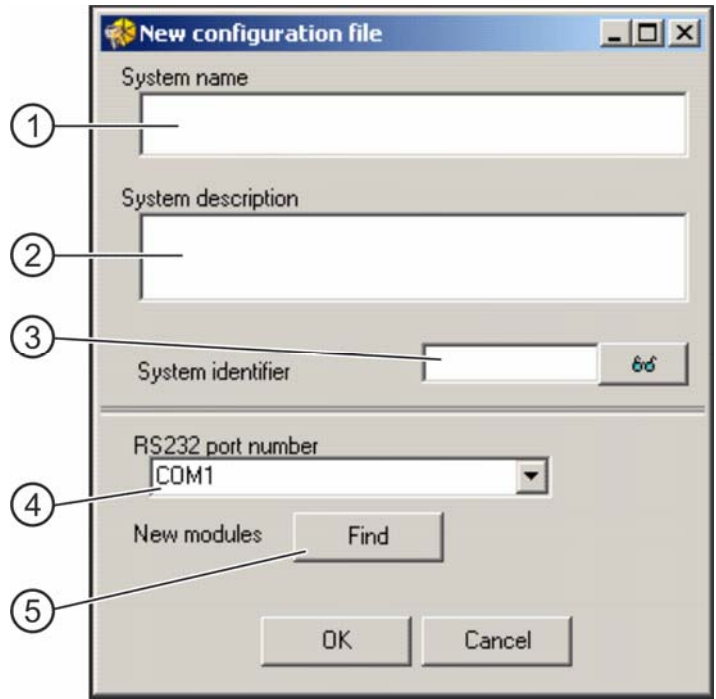

Fig. 21. Window enabling parameters of a new configuration file to be determined.
4. Create a configuration file in which all information related to the module (system consisting of several modules) served by the program will be saved. For this purpose, open the FILE menu and select the NEW item. The window shown on Fig. 21. will be displayed. You have to fill in the SYSTEM NAME and SYSTEM IDENTIFIER fields and select the computer port through which communication with the module(s) will be effected. Next, you can click on the FIND button (the module or modules connected to the indicated computer port will be found by the program itself) or directly on the OK button.